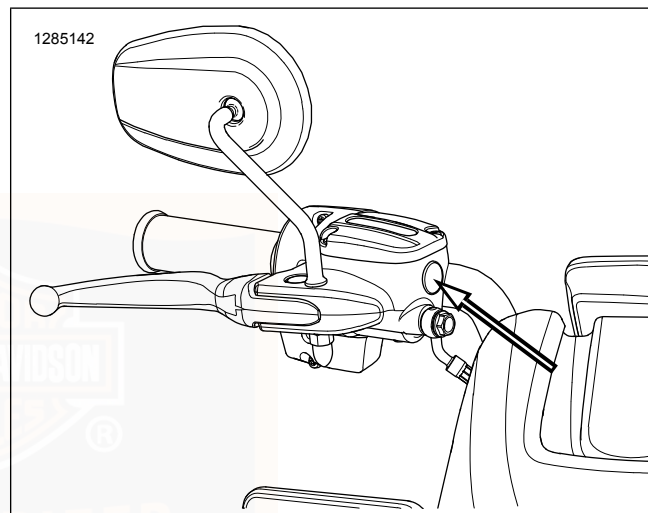

Figure 53. Front Master Cylinder Reservoir Sight Glass
2. **Front:** See Figure 53. Check level in front reservoir sight glass. Fluid level must be at or above the minimum mark on glass.